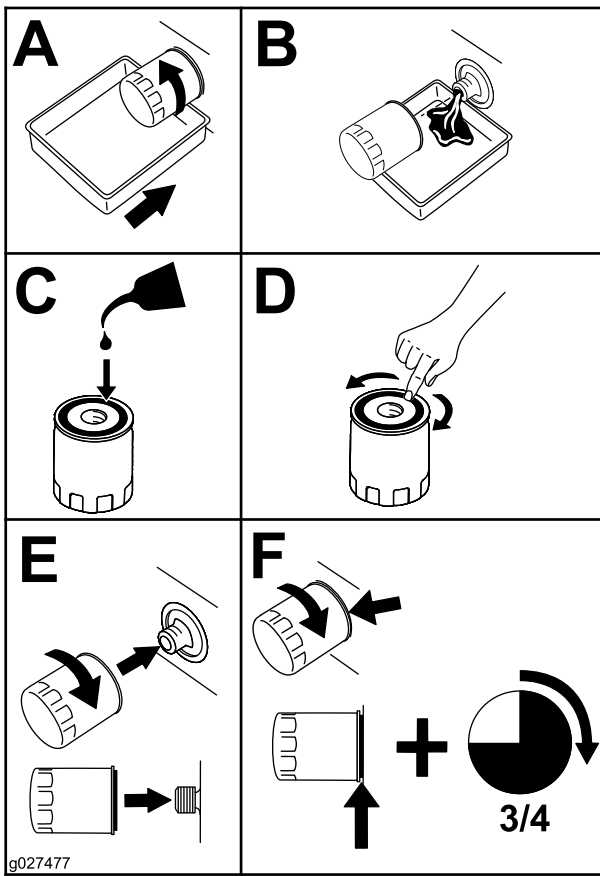

Figure 32
5. Change the engine-oil filter (Figure 32).